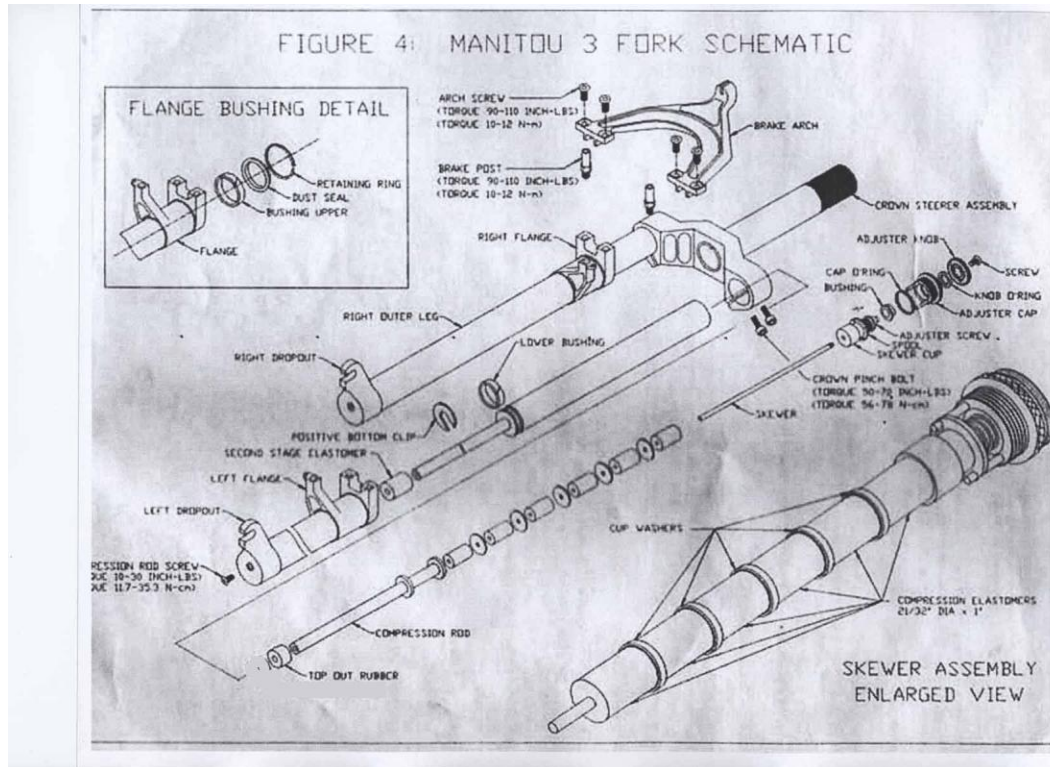

Figure 2
4. Install the rebound (top out) elastomer. (Figure 2)
7. Grease skewer rod and install the 6 compression elastomers. A washer must be between every elastomer. (Figure 2)